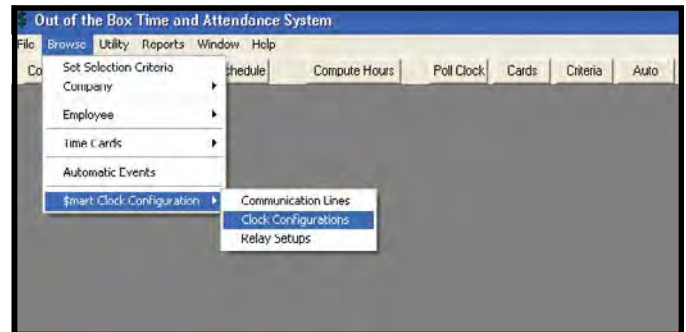

Figure 78. Out-of-the-Box™, Clock Configurations
- VIII. Click “Browse” > “Smart Clock Configuration” > “Clock Configurations” (see Figure 78).